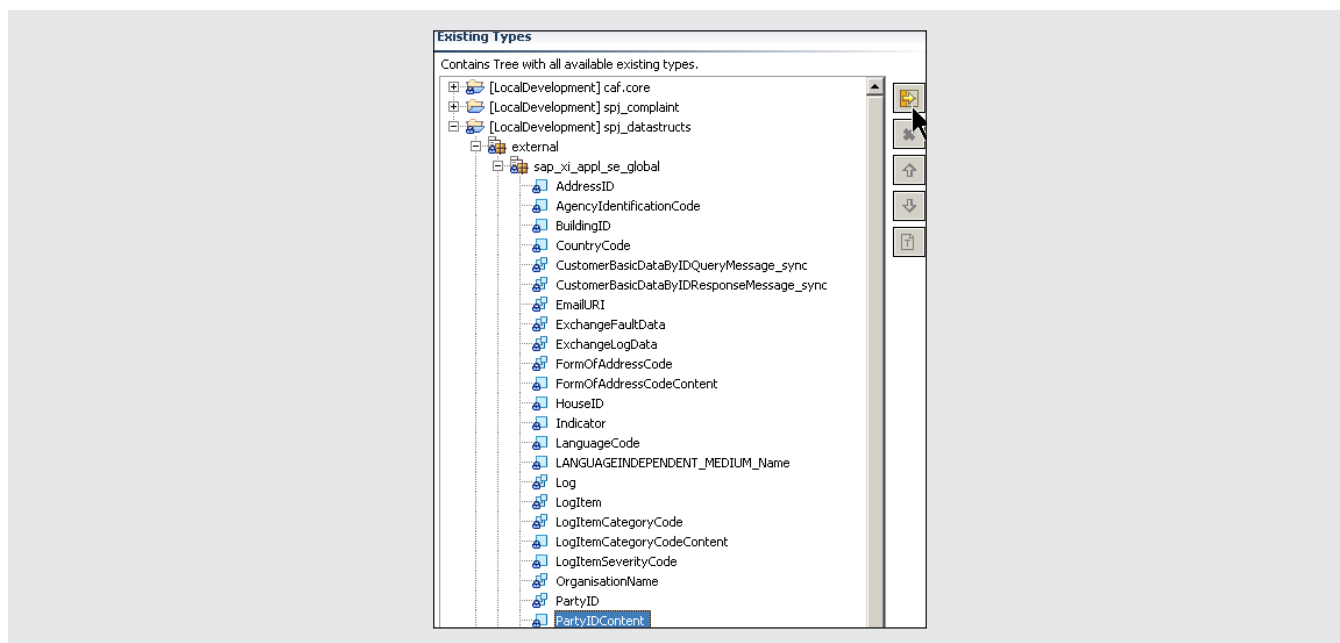

Figure 5 Adding the customerID field as a data type
4. Let's start with the customerID field. Find the appropriate data type in the Existing Types section of the screen (on the left). The customerID has a data type of PartyIDContent (party as in customers, suppliers, etc.), and it's part of the external service. Therefore, you should expand the spj_datastructs → external → sap_xi_appl_se_global nodes, select PartyIDContent, and click on the Add button, as shown in **Figure 5**.